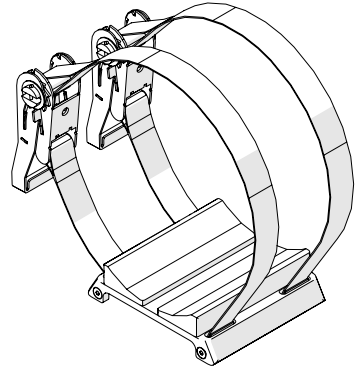

Fig. 62 - Mounting plate with ratchet straps
1. Using the ratchet straps provided, attach the source to the mounting plate (Fig. 62).